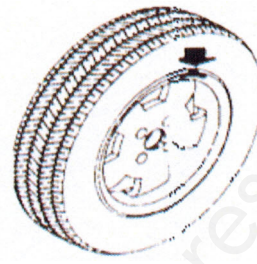

Fig. 10-9
4. Slowly spin wheel, when outside counterweight position indicator light (figure 5-1(4)) all on, clip correspond counterweight on 12 o'clock position on outside of rim, ect figure 10-9.
3. Slowly spin wheel, when inside counterweight position indicator light (figure 5-1(3)) all on, if is follow figure 7-6 input date of rim, clip counterweight, if Notec figure 10-9 of left side show, stick counterweight on 12 o'clock position on inside of rim.
4. Slowly spin wheel, when outside counterweight position indicator light (figure 5-1(4)) all on, stick correspond counterweight on 12 o'clock position on outside of rim, ect figure 10-9 right side.